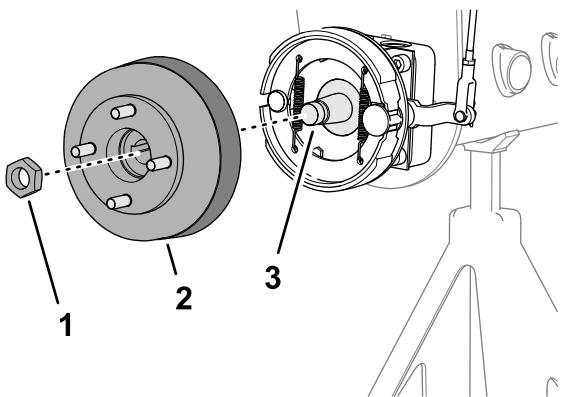
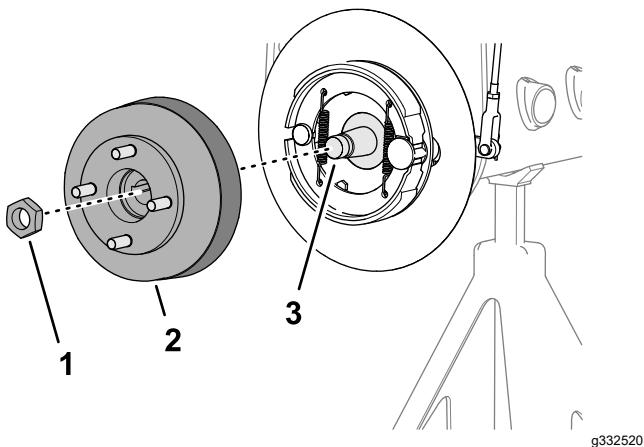

Figure 73
Figure 74
| 3. Assemble the wheel hub and brake drum onto the wheel-motor shaft (Figure 73 or Figure 74). | |
- 4. Secure the wheel hub to the shaft with the locknut (Figure 73 or Figure 74), and tighten by hand.